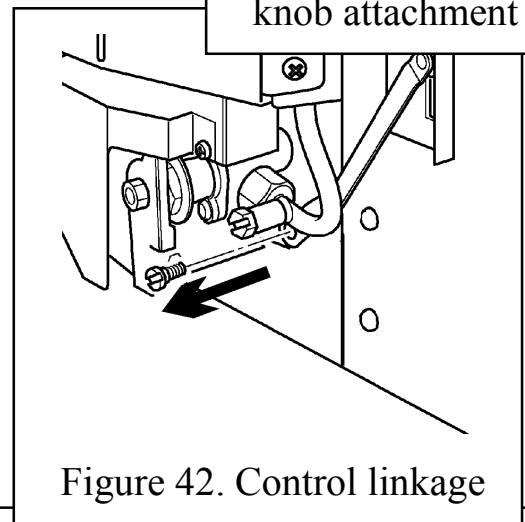

Figure 42. Control linkage
3. Disconnect the control linkage by removing the knurled screw that connects the control linking bar with the control pivot unit. See figure 42.